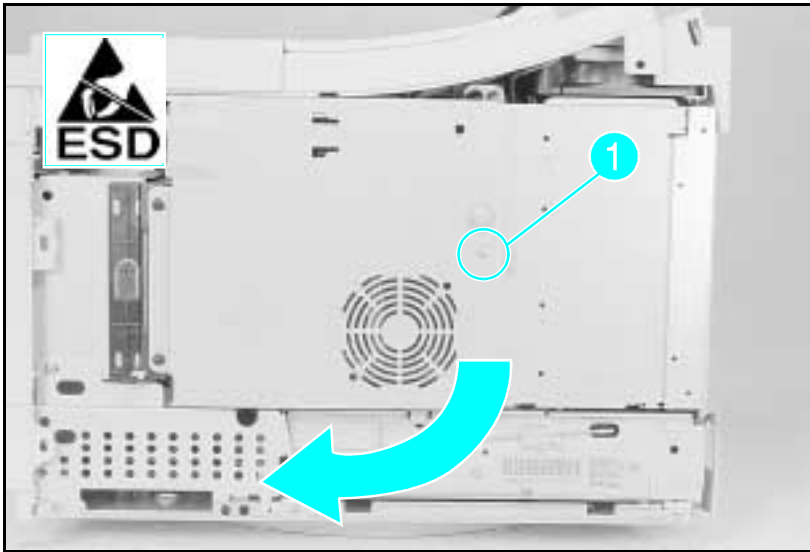

Figure 6-23b Opening the SIMMs Door (LaserJet 4 Plus)
2 Remove the (1) screw that holds the SIMMs cover (see Figure 6-23b, callout 1).